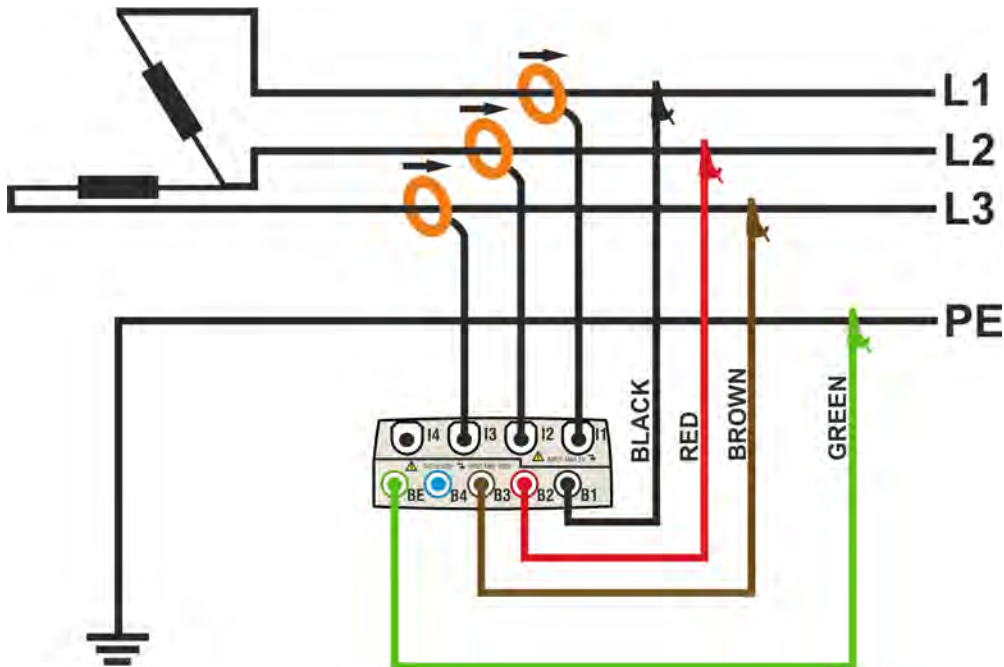

Fig. 140: Meter connection in a three phase 3POD system
2. Connect voltage test leads on Phases L1, L2, L3 and PE cables considering the colours as shown in Fig. 140. **Verify the result “123” at display relative to a correct phase sequence indication** (see § 5.2.1) and perform the corrections if necessary.
3. Connect the transducer current clamps on Phase L1, L2, L3 cables as shown in Fig. 140 respecting the clamp’s arrow direction indicating the current standard sequence from generator to load. **On Real Time Values’ section screens (selecting a 3 wire system preliminarily) always verify the positive value of Active Power and the power factor relative to load which should be normally inductive** before starting a recording. Reverse the clamp by 180 degrees on cables in case of negative readings.